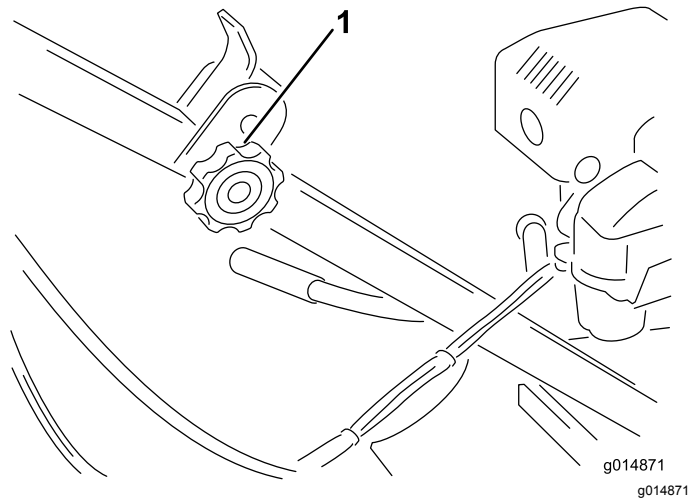

Figure 4
1. Unscrew the handle-release knob from the machine (Figure 4).